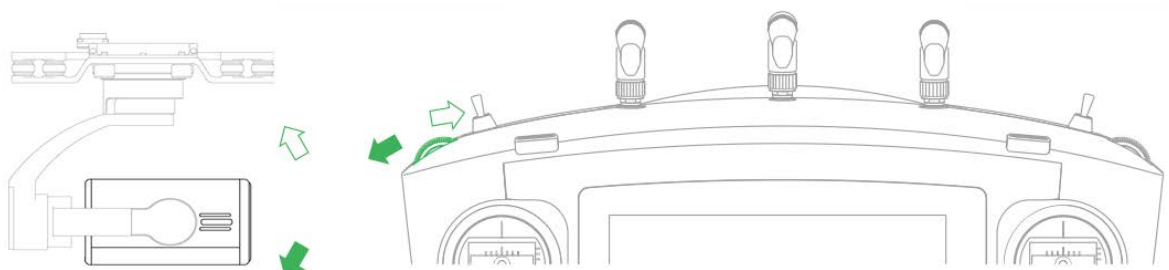

Figure 2-13
- PTZ pitching scroll wheel: control vertical shooting angle of camera lens, as shown in Figure 2-13.